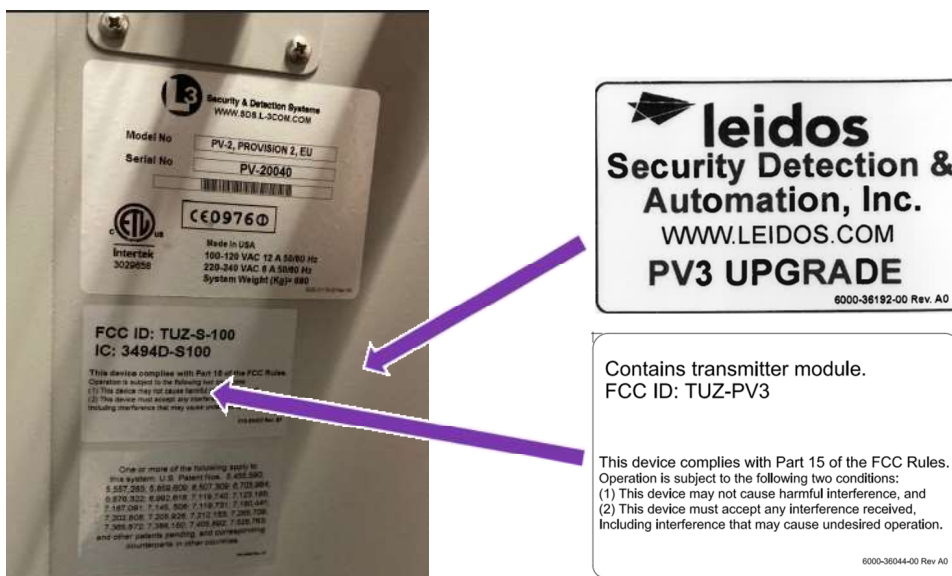

Figure 33 – FCC Part 15 Marking & PV3 ID Label
7.13.2 Apply the PV3 FCC Part 15 label P/N 6000-36044-00 over the existing FCC label near the power entry panel as indicated in Figure 33.